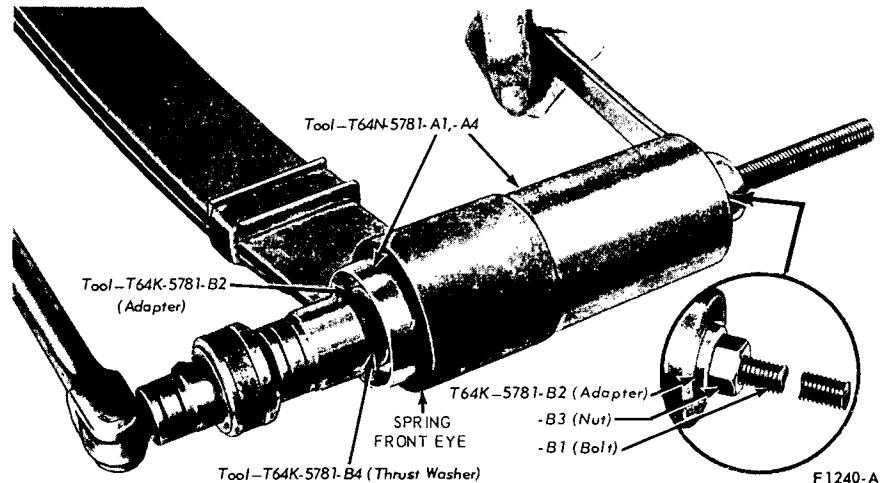

FIG. 16—Rear Spring Front Bushing Removal—Typical
7. If the front bushing is being replaced, assemble the special tool combination to the bushing in the spring front eye as shown in Fig. 16.